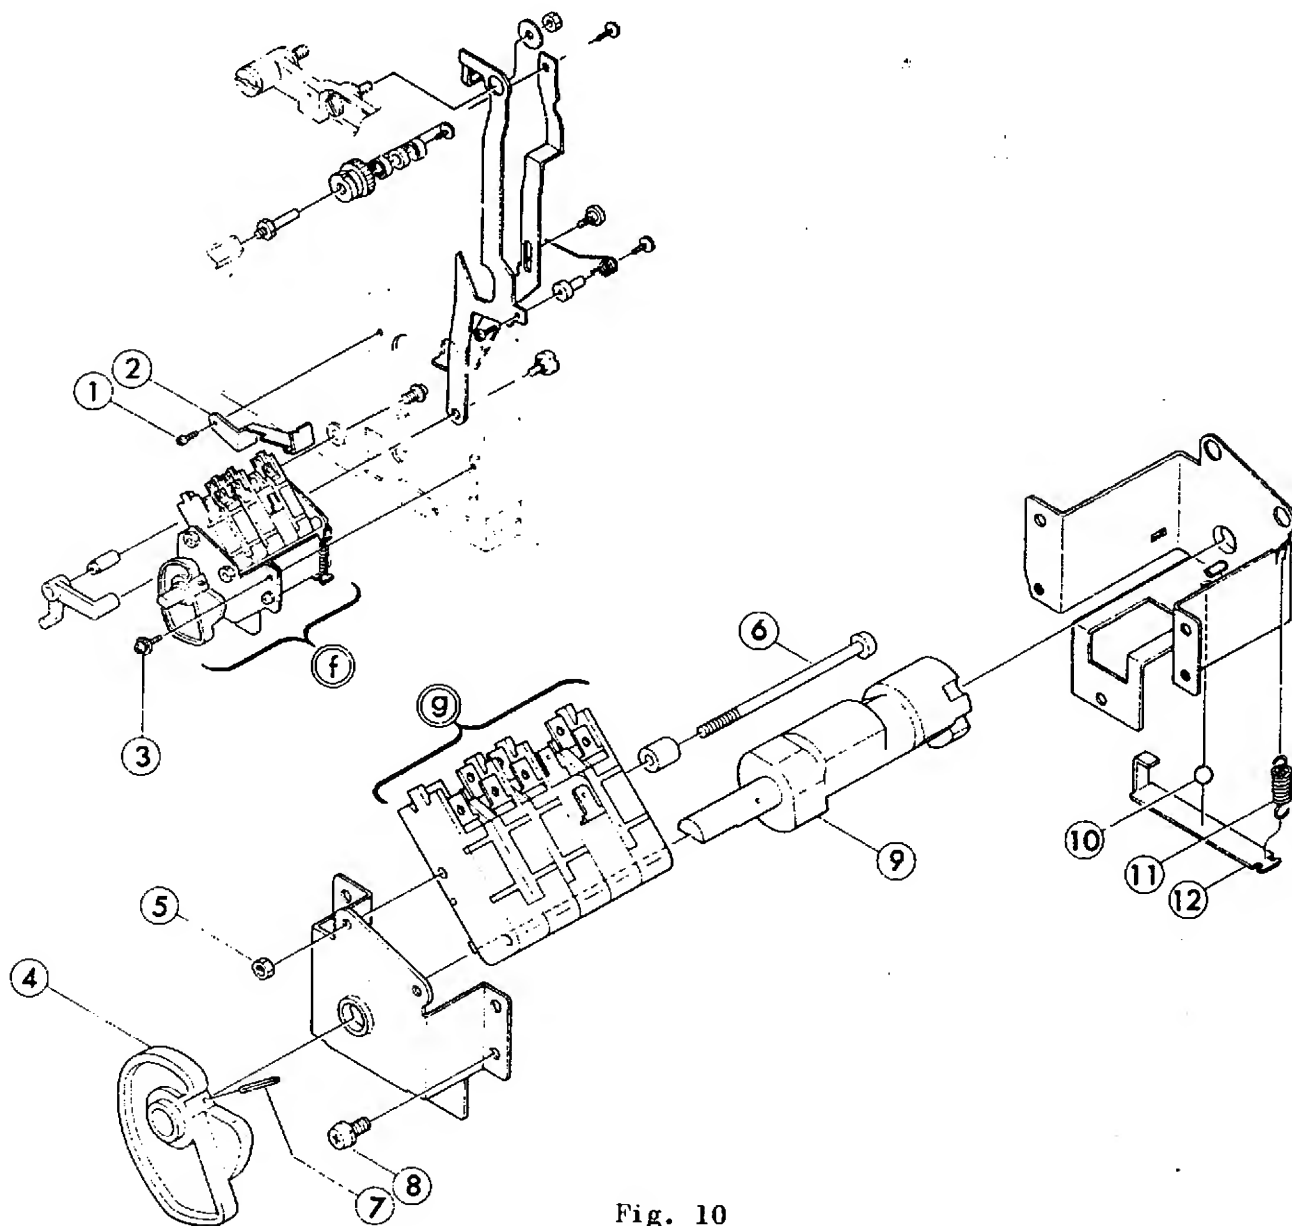

Fig. 10
- (4) Remove (f) in Fig. 10 by detaching Fig. 10-3x3 and disconnect lead wires of (g) in Fig. 10.
- (5) Remove (g) in Fig. 10 by detaching Fig. 10-5x2, 6x2.